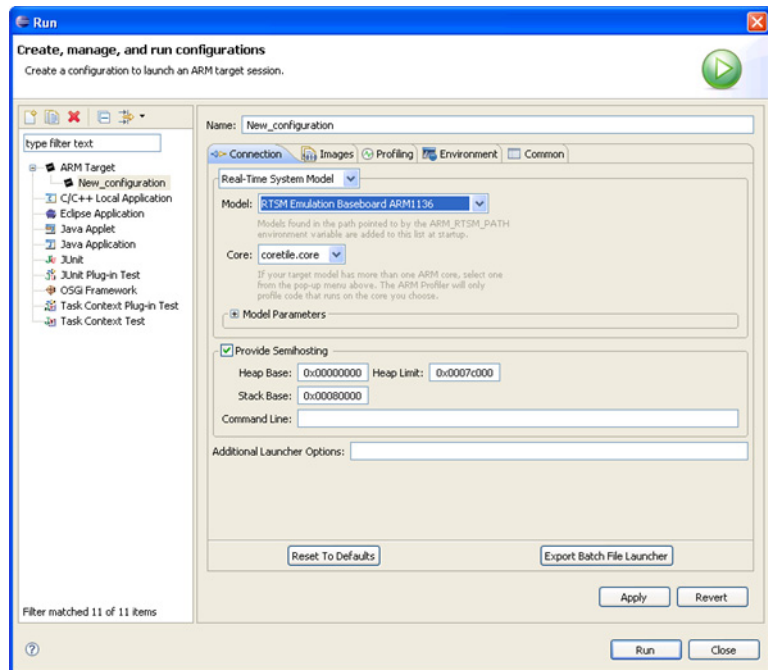

Figure 2-8 Running on the ARM 1136 EB RTSM
3. Press the new launch configuration button just above it. The launch configuration window is pictured in Figure 2-8.